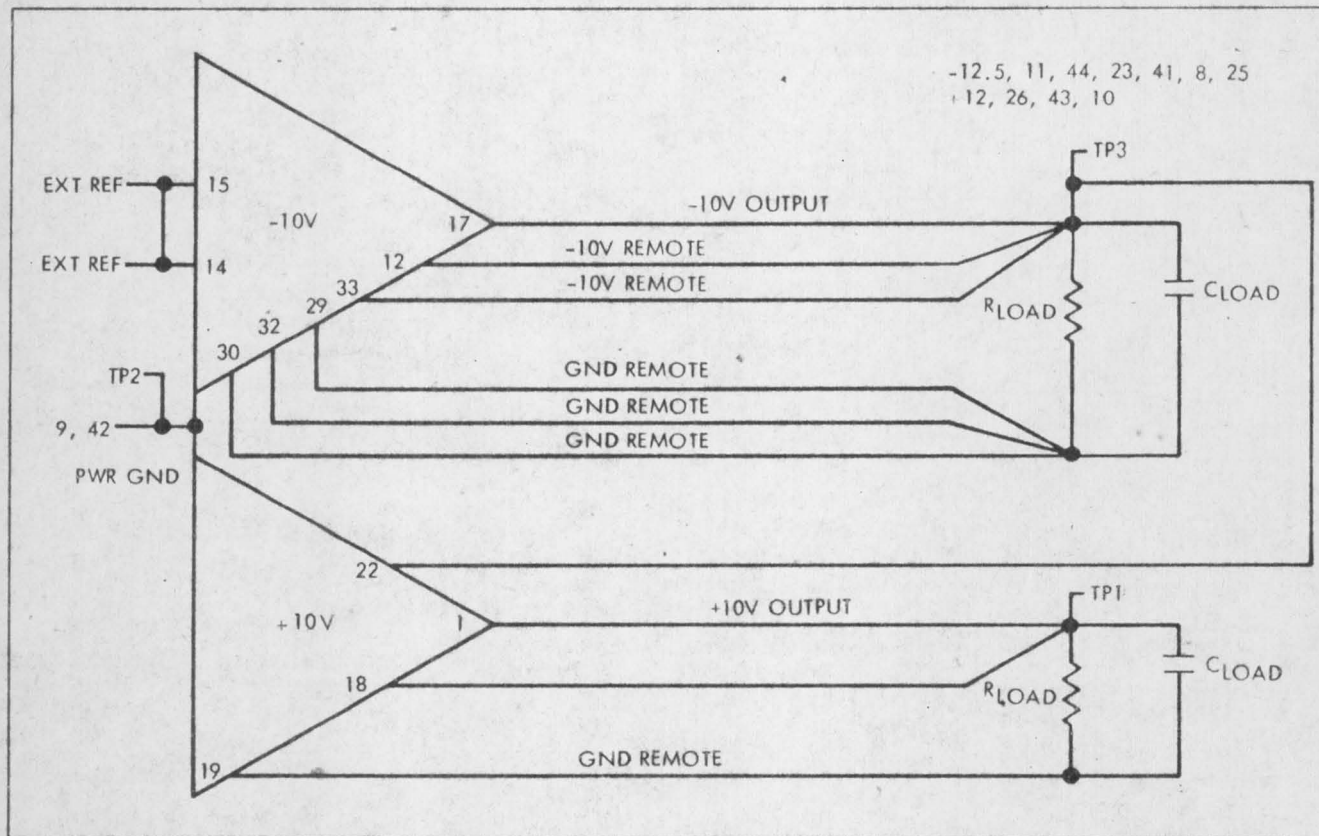

Figure 2. Reference Power Supply Model 600085, Logic Diagram
4. CIRCUIT DESCRIPTION (See figure 2)